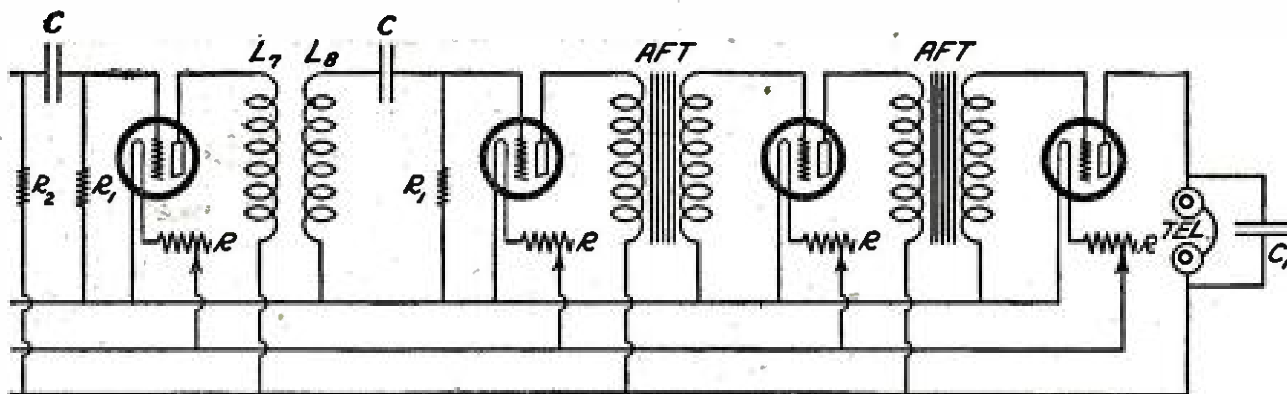

FIGURE 2
**ANSWER:** An eight-tube super-heterodyne circuit is shown in Figure 2. The designations on the diagram refer to these parts: